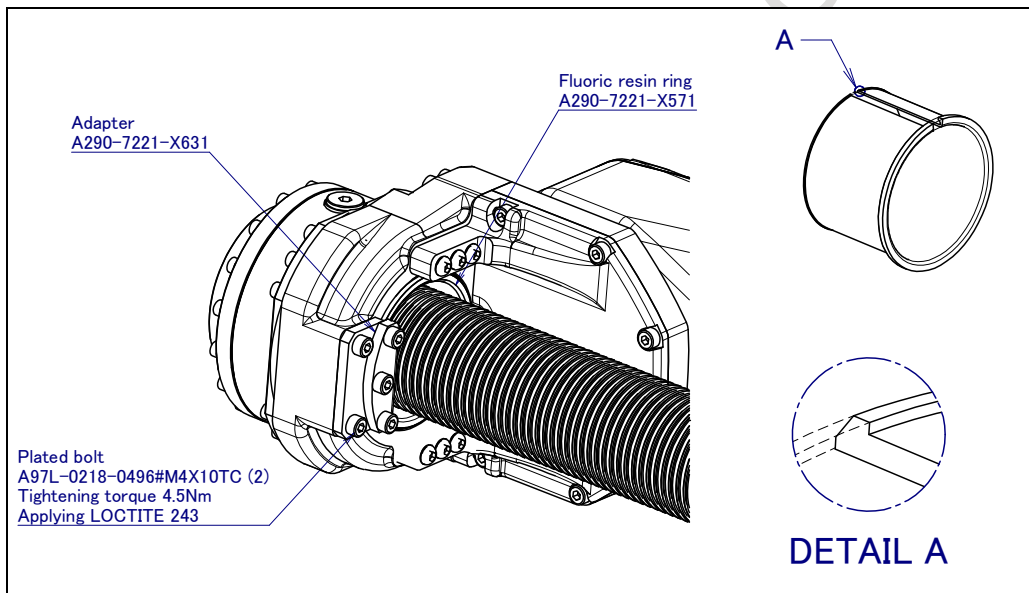

Fig. 6.22 (a) Replacing fluoric resin ring
- 2 Remove the plated bolts (2pcs) as shown Fig. 6.22 (a), then remove the end of M/H conduit unit from J6 hollow part.